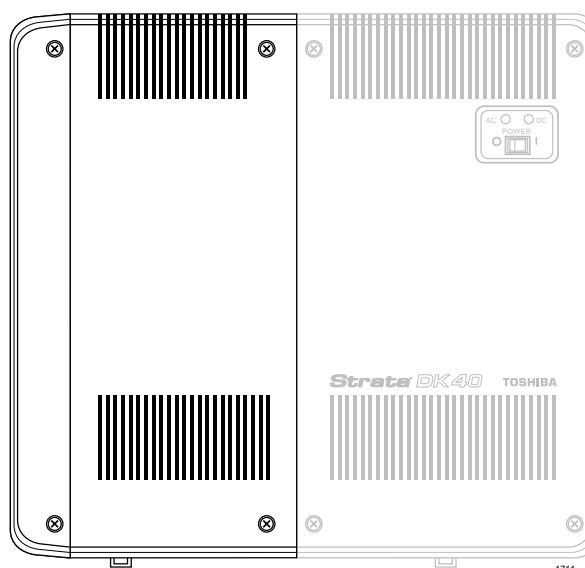

Figure 5 KSU with Expansion Unit
**Note** An optional Expansion KSU can be added to the DK40i to increase the system capacity to 28 station ports and 12 CO lines (see Figure 5). A maximum of 28 station ports and 12 CO line interfaces are allowed in the system (Base KSU plus Expansion KSU). Base capacity is 12 station ports and 4 CO line interfaces.